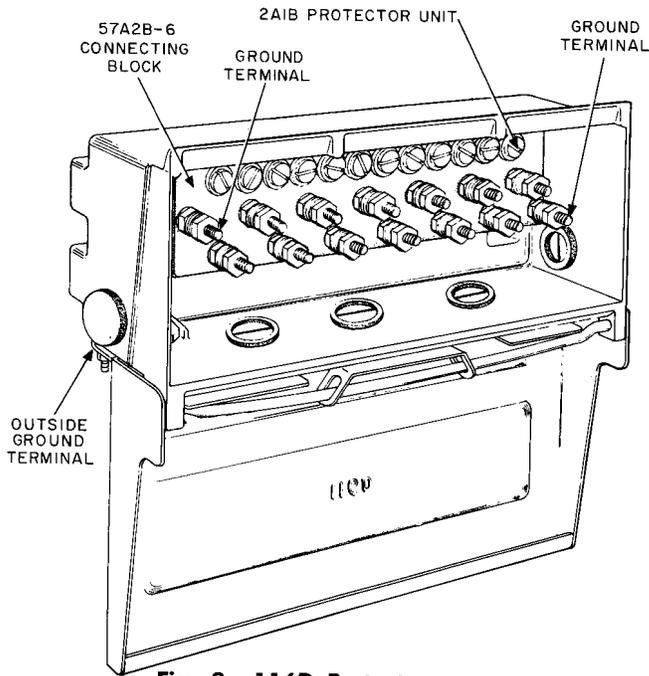

Fig. 3—116D Protector
2.03 The 116D Protector shown in Fig. 3 consists of an aluminum housing containing a 57A2B-6 Connecting Block equipped with six pairs of binding posts, two terminals for ground connections, and twelve 2A1B Protector Units. A ground terminal is also located on the outside of the box. The 116D is arranged for pole and crossarm mounting using wood screws.